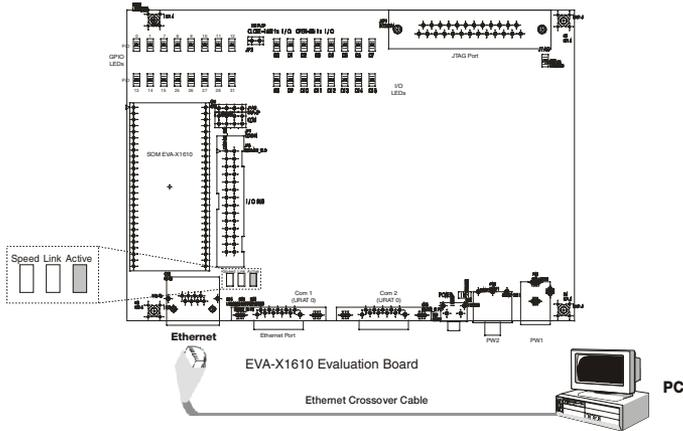

Fig 6-1: Direction connection between EVA-X1610C evaluation board and PC
- Direct connection between EVA-X1610C evaluation board and PC via an Ethernet crossover cable (Fig 6-1).